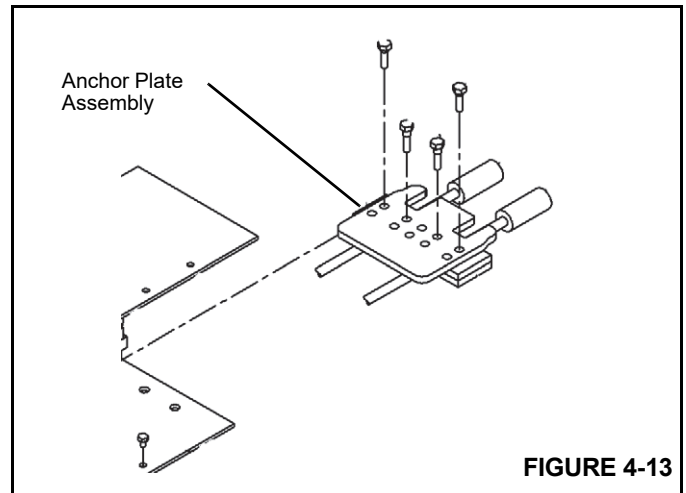

FIGURE 4-13
16. Install the anchor assembly, plate and extend cable (Figure 4-13).